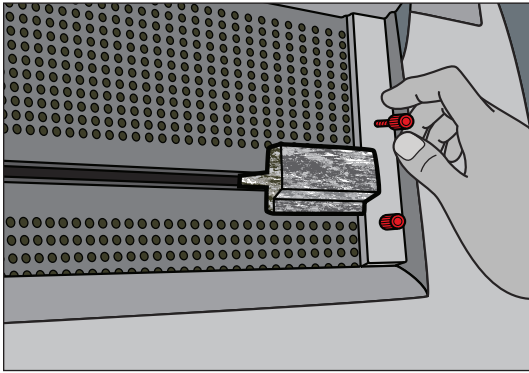

FIGURE 3
4. Remove the white plastic clamp retainer by loosening the two red knobs. (fig. 3)
6. Remove the two small foam pieces after turning the machine on. (fig. 3)